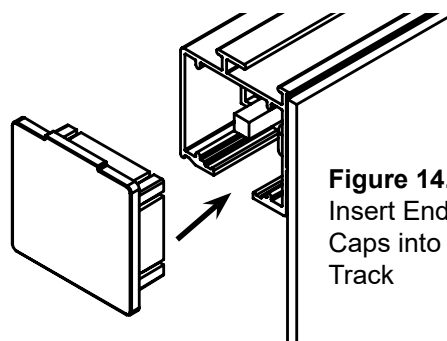

Figure 14. Insert End Caps into Track
Step 11. See **Figure 14**. Insert the End Caps into each end of the Track and push into place until they are tight against the Track. Do not use a hammer or you may crack the end cap.